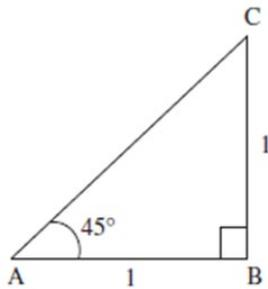

Figure Q1c: Triangle.
- c) From **Figure Q1c**, without using a calculator, evaluate i) $\sin(45^\circ)$, ii) $\cos(45^\circ)$, iii) $\tan(45^\circ)$, iv) $\cot(45^\circ)$ and v) $\sec(45^\circ)$